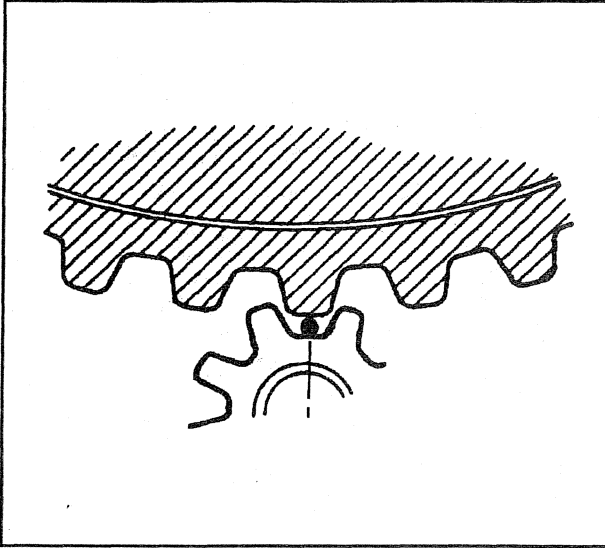

Figure 10—Flywheel to Pinion Clearance
5. Measure the clearance between the top of the ring gear tooth and the bottom of the pinion tooth using the width of a wire gage or standard feeler stock (figure 10). Normal clearance is 0.5 to 1.5 mm (0.02 to 0.06 inch).